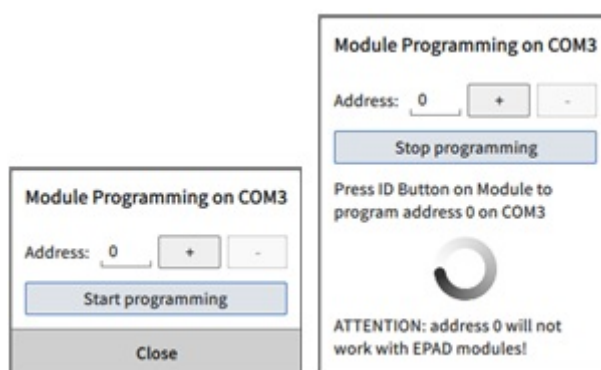

Fig. 4.27: EPAD-programming procedure
- Next, select the starting EPAD2 address (cannot be 0) and then select *Start programming* (see Fig. 4.27).
- When finished programming, select the *Stop Programming* button (see Fig. 4.27).